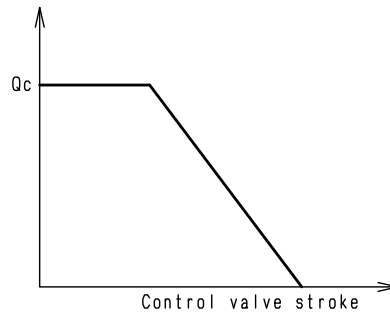
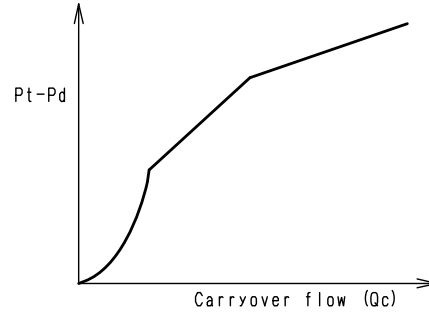

Fig. 1
Fig. 2
- If the stroke increases during operation, the carry-over flow rate ( $Q_c$ ) drops (see Fig. 1), and the jet sensor output pressure difference ( $P_t - P_d$ ) decreases (see Fig. 2).